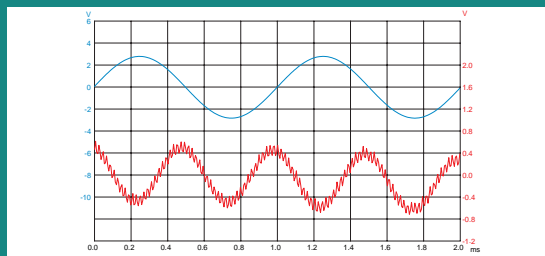

FIGURE 4: Residual distortion, SRPP mode.
*Figure 4* shows the same data for SRPP mode. This distortion residual signal again shows mainly the second harmonic, but with a high-frequency signal riding on the sine